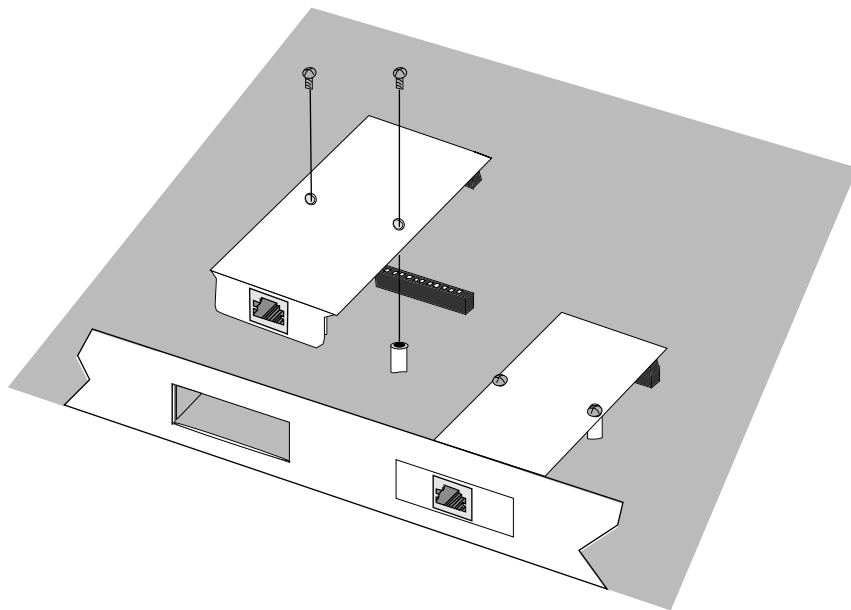

Figure 2-4. Installing an FPIM
3. Install the FPIM as shown in Figure 2-4. Ensure that the rear connector is seated firmly before tightening the two mounting screws.